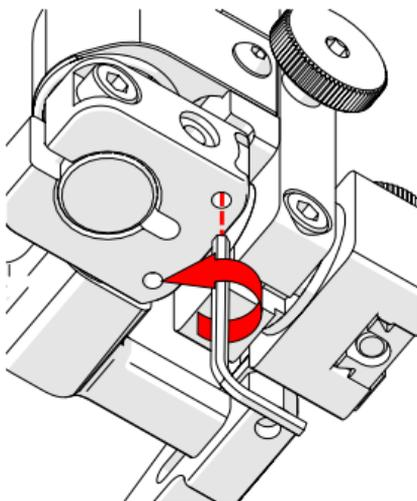

Fig. 85 - Lower 90° stop post
7. Locate the recessed M3 screw (*stop post*) on the bottom of the probe holder. Unscrew the stop post using a 1.5 mm hex wrench until it has cleared all obstructions. Do not remove the stop post (*Fig. 85*).